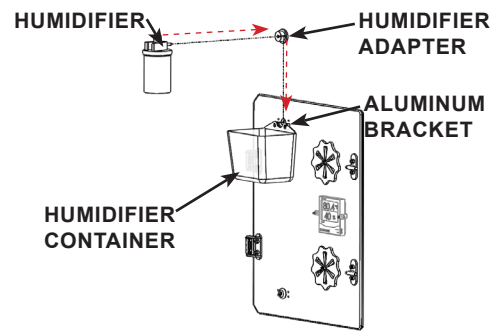

FIGURE 3.3 - Oxygen Analyzer
**STEP 2:** Insert the humidifier into the humidifier adapter and secure with the retaining screw. Slide the humidifier/adapter into the aluminum bracket. Add ice or water as required to adjust the temperature of the humidifier water. See FIGURE 3.3